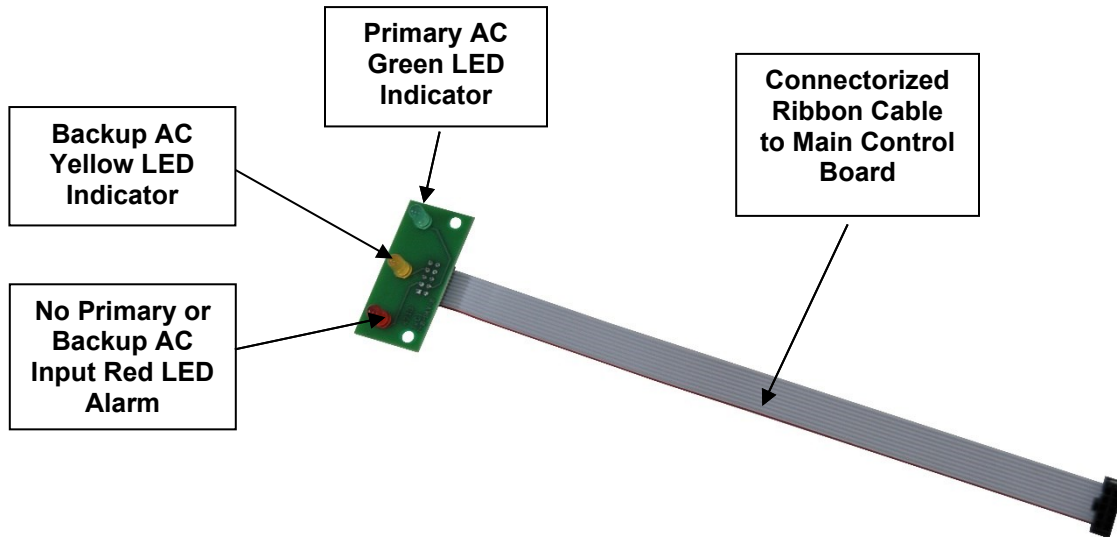

Figure 9: ATS Series Display Board Assembly
2.22 DISPLAY CIRCUIT BOARD ASSEMBLY (See Figure 9)